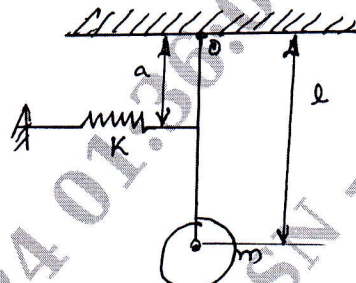

Fig.Q8(b)
b. Mass of uniform rod shown in Fig.Q8(b) is negligible compared to the mass attached to it. For small oscillation calculate natural frequency by (i) Newton's method (ii) Energy method